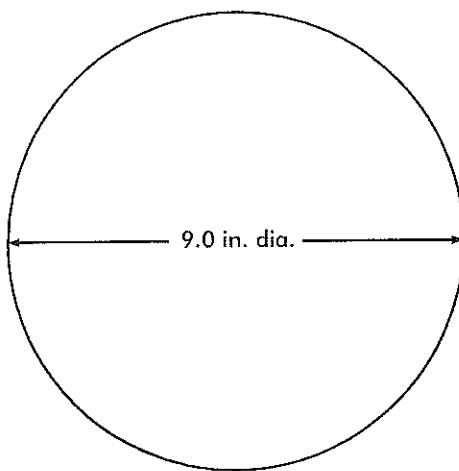

Figure B5. Large head template
The dimensions (see Figure B5) of this template are based on the largest dimension on the head of the largest child at risk (95th percentile 5-year-old child). If an opening is large enough to permit free passage of the template, it is large enough to permit free passage of the head of the largest child at risk in any orientation. Openings large enough to permit free passage of the large head template will not entrap the chest of the largest child at risk.
Step 7: Place the large head template (Figure B5) in the opening in Plane A with its plane parallel to Plane A. Determine if the opening in Plane A admits the large head template.